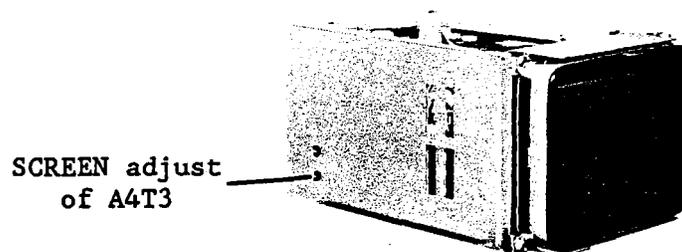

Figure 3-19. Horizontal Position Coarse Adjustment Location
2. Gradually turn **A4T3 (SCREEN)** clockwise (CW) until the screen is dimly illuminated. See Figure 3-19 for the **SCREEN** adjustment location.